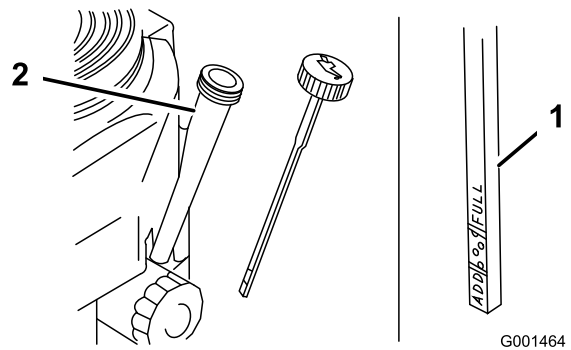

Figure 29
4. Clean around the oil dipstick (Figure 29) so that dirt cannot fall into the filler hole and damage the engine.
5. Unscrew the oil dipstick and wipe the end clean (Figure 29).
6. Slide the oil dipstick fully into the filler tube, but do not thread onto tube (Figure 29).
9. Slowly pour approximately 80% of the specified oil into the filler tube (Figure 29).